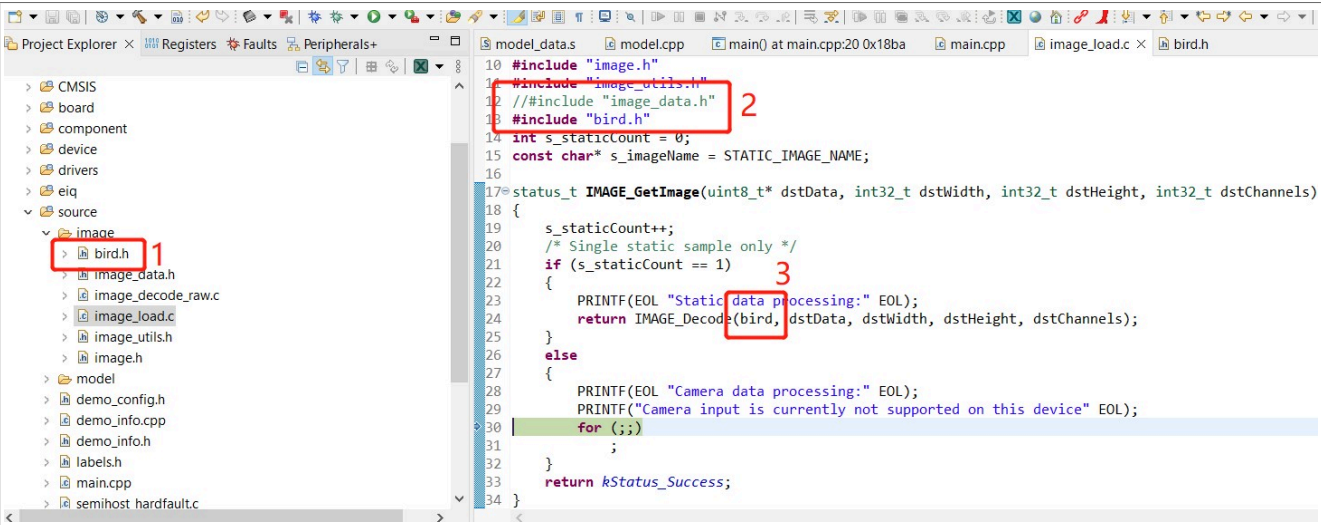

Figure 21. Using bird image data
6. Copy the header file (bird.h) into the image folder of the project, and modify image_load.c. Switch to use the bird image data as shown in Figure 21.